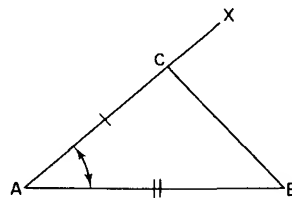

Fig. 3.10
2. To construct a triangle given two sides and the included angle. In Fig. 3.10 we are given the lengths of AB and AC and the angle at A.